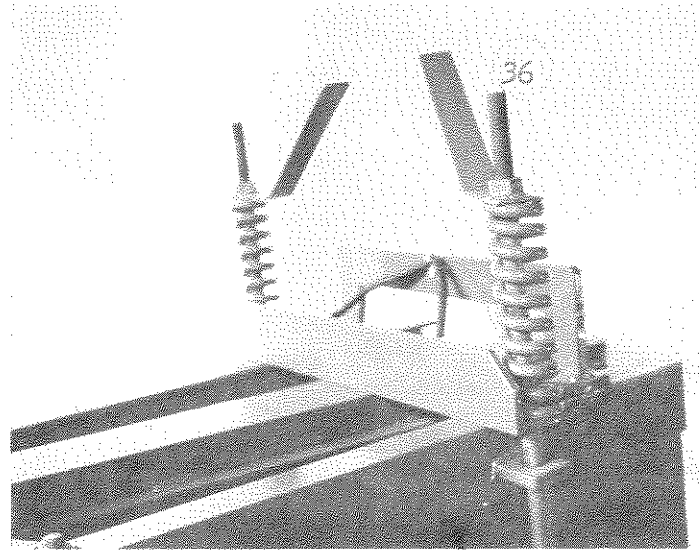
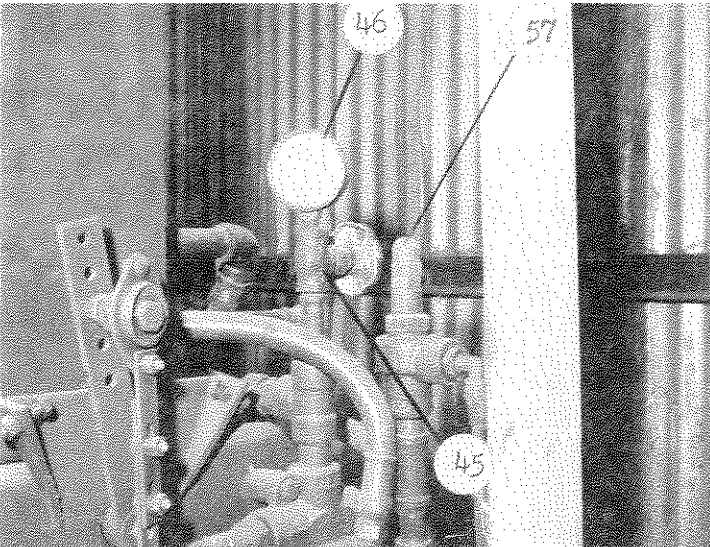

Fig. 2
Fig. 3
1. Turn tension adjusting screws, Ref. 36, Fig. 2, all the way down. As cotton packs in chamber open gauge valve, Ref. 45, Fig. 3. Check pressure on compression stroke. When pressure reaches 1000
Turn hand valve on tension control by-pass valve, Ref. 53, Fig. 13, all the way down. Begin feeding material into baler, as material fills chamber and packs, open the gauge valve, Ref. 45, Fig. 3, and observe pressure as plunger makes compression stroke. Turn hand wheel on tension control valve counter-clockwise to maintain pressure at 1300 psi. Under normal conditions this system should require no further adjustment.
19. Packer is protected by a relief valve. To check pressure, disconnect packer valve control bar Ref. 19, Fig. 9. Pull out packer valve, Ref. 20, Fig. 9, start baler and packer will go down to the end of its stroke. Adjust packer relief valve Ref. 57, Fig. 3, to 150 psi, on gauge, Ref. 46, Fig. 3.